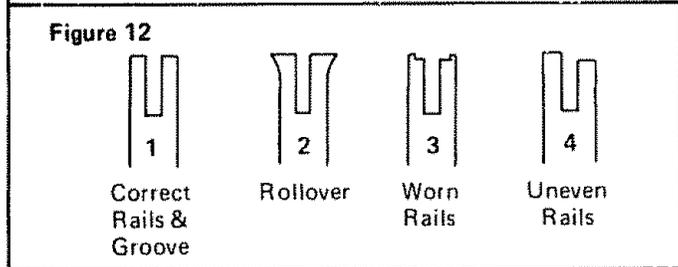

Figure 12
1. Figure 12 shows a cross-section of the guide bar. Keep the edges square as in 1 with a flat file.